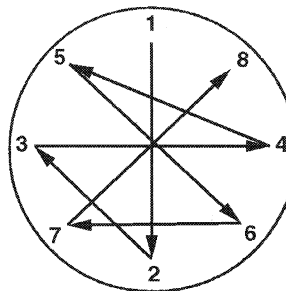

Figure 4. Cap Attaching Screw Tightening Sequence
- f) Install the spring (12) in the piston (14). Put the cap assembly on the valve body (31). Carefully align the tubes (26 and 27) with the hole in the cap (3). Make sure that the spring (12) remains in its correct position and press the cap downward. Secure the cap with two of the screws (4).
- g) Install the remaining six screws (4) and tighten all eight of the screws evenly in the sequence shown in Figure 4 (the starting point optional).